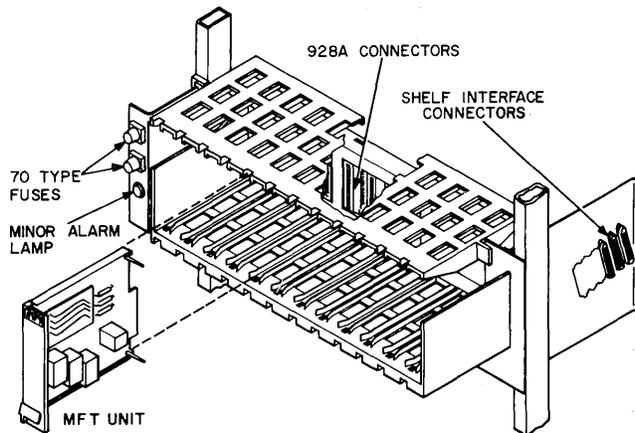

Fig. 6—J99380A and J99380E Shelf Assembly
4.04 The J99380A and E shelves were designed specifically for installation in the DIMENSION PBX. These two shelves, shown in Fig. 6, are identical except for wiring.
to power fuses. The wires are left unterminated on the fuse end in the List 1 assemblies. List assemblies 2 through 5 supply an ED-7C055 fuse and alarm assembly for mounting on the side of the J99380A and E shelves. For the mounting arrangements of these shelves, see Fig. 6.